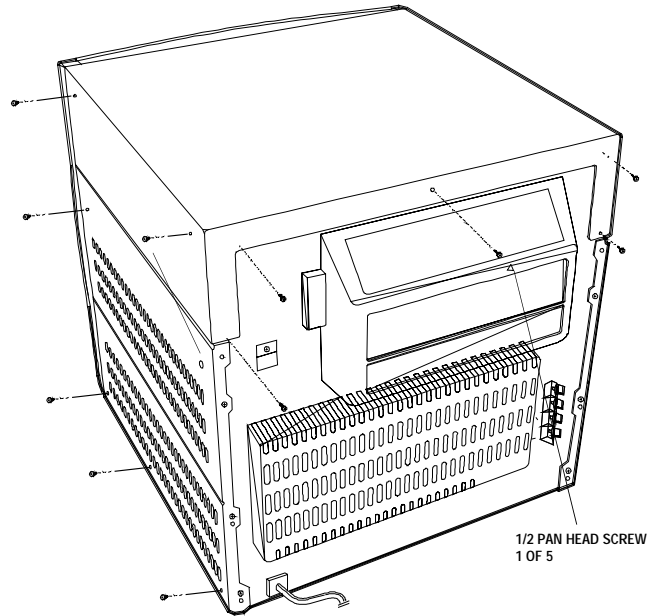

Fig. 1
1. Remove the screw located on the backside of the unit as shown in Figure 1. Remove seven (7) screws located on the left and right side of the cover